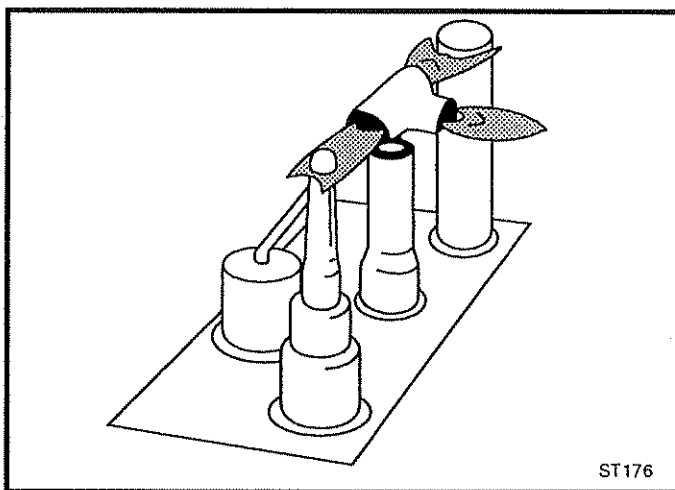

Fig. 46 Correct pilot flame. Pilot assembly is located at the left forward corner of the burner area.
6. Turn the main gas control knob counterclockwise to the PILOT position and push it in. With your other hand, immediately push the ignitor button in until the pilot flame ignites. You may have to push the ignitor repeatedly. Continue to hold the control knob in for about one (1) minute after the pilot is lit. Then, release the knob and it will spring back out. The pilot should remain lit and appear as in Fig. 46.